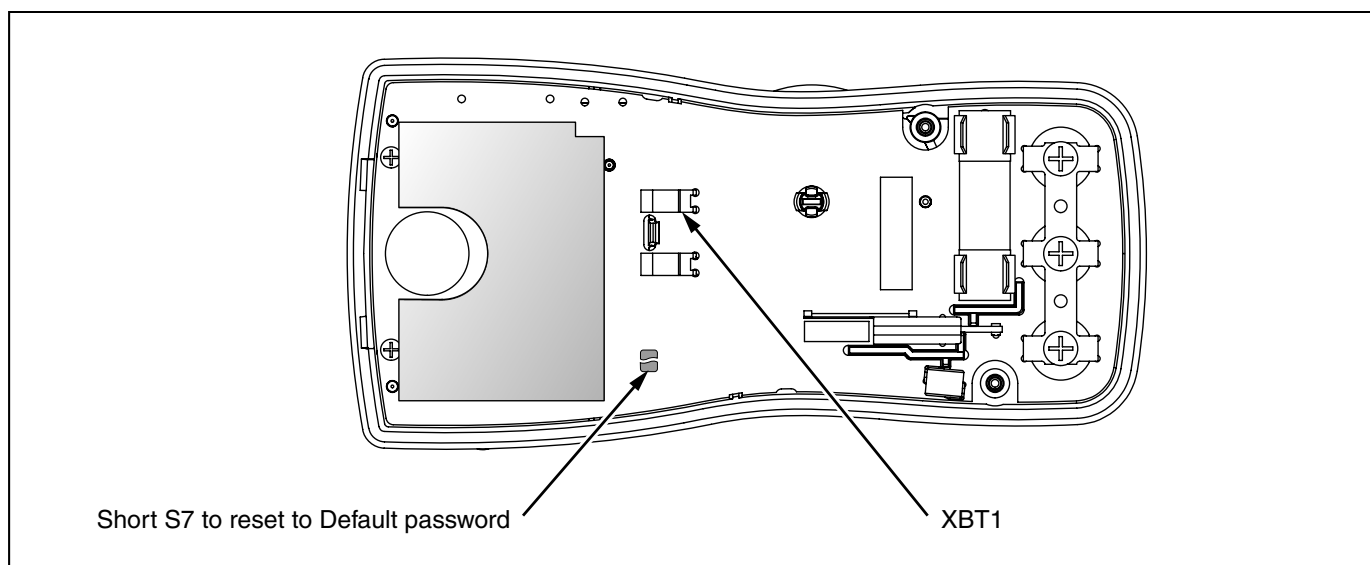

Figure 5. Calibration Password Reset
2. Apply 9.0V across the battery contacts (XBT1) + and (XBT2) – on the back of the PCA. See Figure 5.
4. Short across the S7 CAL keypad on the back of the PCA. See Figure 5. The Meter should beep. The default password is now restored.